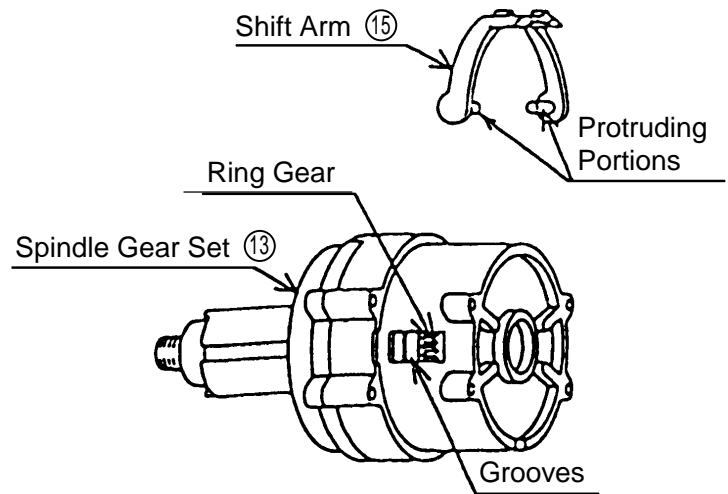

Fig. 6
(c) When assembling the Shift Arm ⑮ onto the Spindle Gear Set ⑬, ensure that the protruding portions of the Shift Arm ⑮ are properly fitted into the matching grooves of the ring gear inside the Spindle Gear Set ⑬. (See Fig. 6)